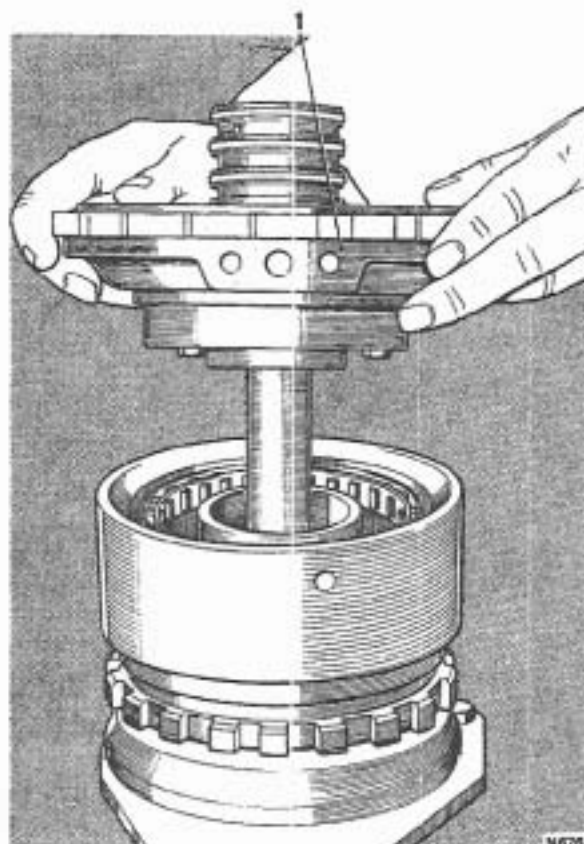

FIG. T262 REMOVING THE CENTRE SUPPORT ASSEMBLY
21. Remove the centre support assembly from the reaction carrier (see Fig. T262).